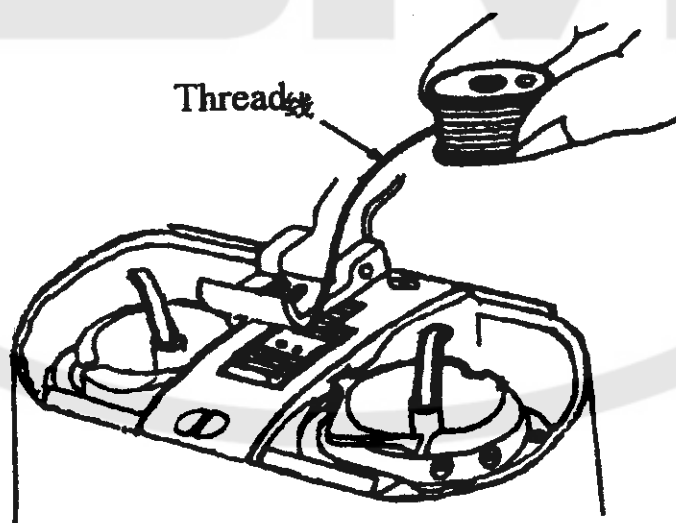

Fig. 6
11、 How to place the Bobbin into the Hook (Fig.6):
Pull the bobbin thread about 5cm. Hold the bobbin as shown in fig.6, then place the bobbin into the hook base.